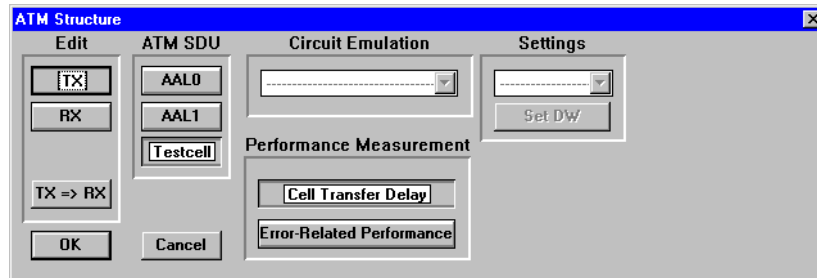

Fig. A-5 “ATM Structure” dialog (“ATM Signal Structure” VI)
- The “ATM Structure” dialog opens (see Fig. A-5).